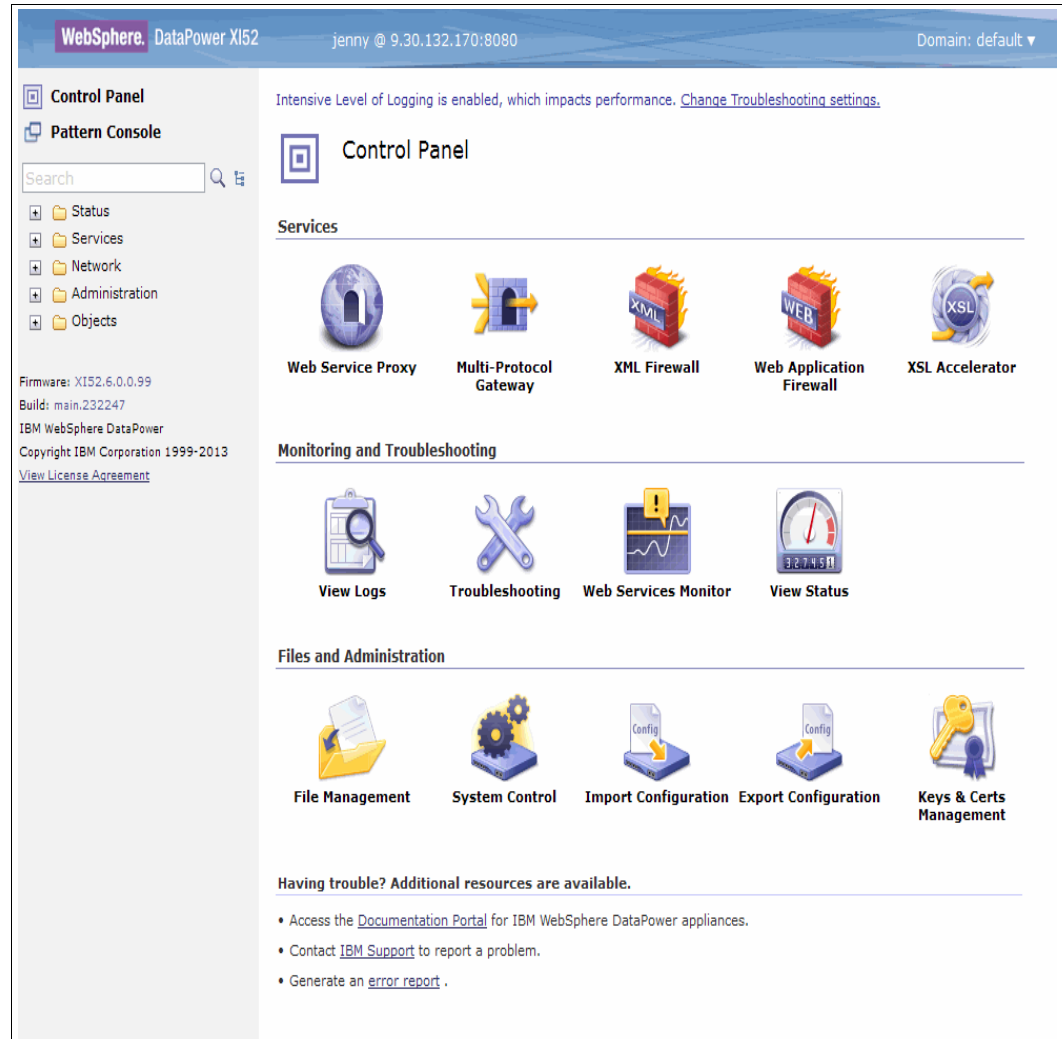

Figure 12-3 WebSphere DataPower Control Panel
1. In the WebSphere DataPower Control window, select **Multi-protocol Gateway**, as shown in Figure 12-3, and click **Add**.